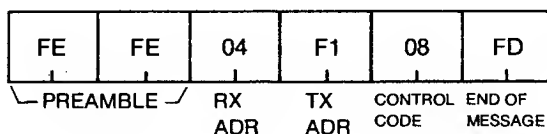
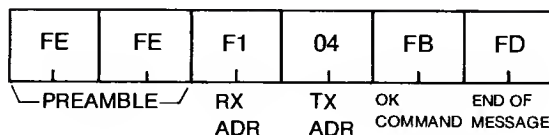

Fig. 35
Fig. 37
- (1) The controller can select the memory channel desired.
- (2) If the controller sends either of the packets in Figs. 35 or 36, the IC-735 returns with the packets in Figs. 37 or 38, respectively.
- (3) If the IC-735 is scanning, it changes the MEMORY CHANNEL number and continues scanning. If scanning memories, it changes the channel number and continues scanning from that number.